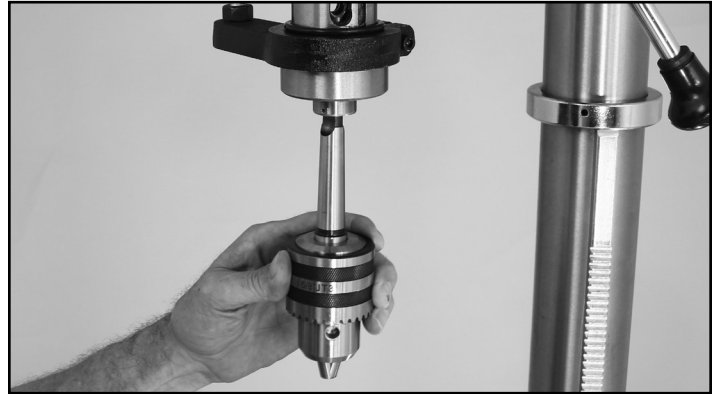

FIG. 9
1. Carefully insert the arbor's short, JT3 tapered end into the rear tapered hole of the chuck. FIG. 9.